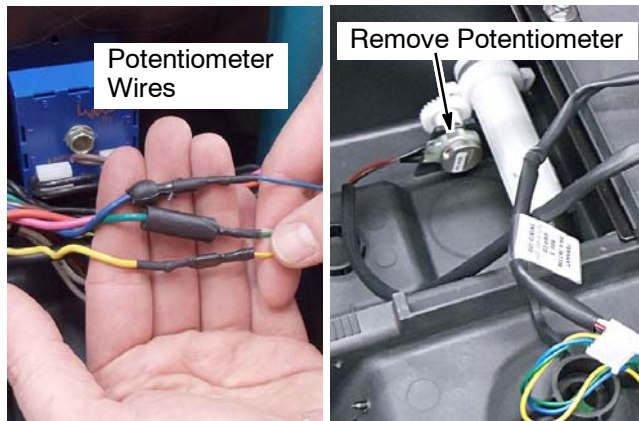

Fig. 6
7. Disconnect the three potentiometer wire connections (6/Blue, 5/Green and 4D/Yellow) and remove the old potentiometer from machine (Figure 6).